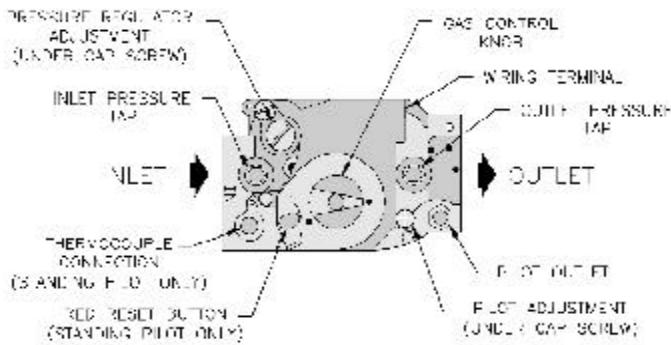

Figure 12: Gas Valve Pressure Tap
2. Connect manometer to pressure tap on gas valve. See Figure 12.